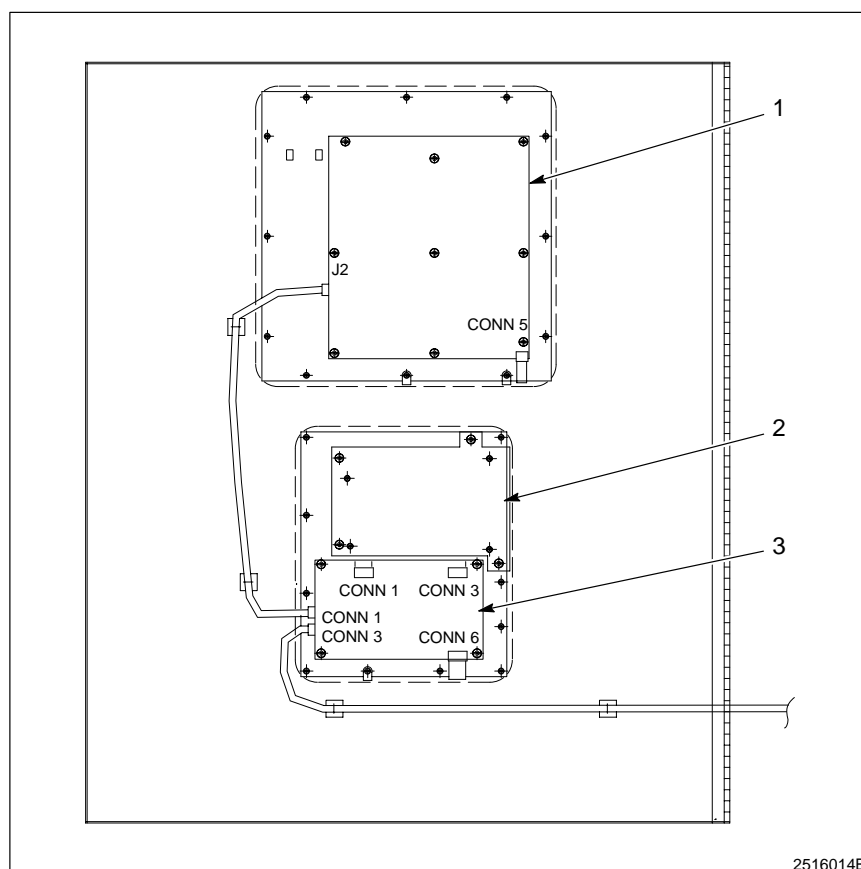

Fig. 6-3 Components Inside the Front Enclosure Door
2. See Figure 6-3. Open the enclosure door and disconnect the cable from the diagnostic panel (1).
See Figure 6-3. Use this procedure to replace the VGA Display.
3. See Figure 6-3. Remove the four screws that hold the VGA support plate to the enclosure door. Pull the support plate out slightly and disconnect the cable underneath. Remove the VGA support plate.
4. Remove the screws securing the VGA display (2) to the support plate.
2. See Figure 6-3. Open the enclosure door and disconnect the two cables from the keypad (3).